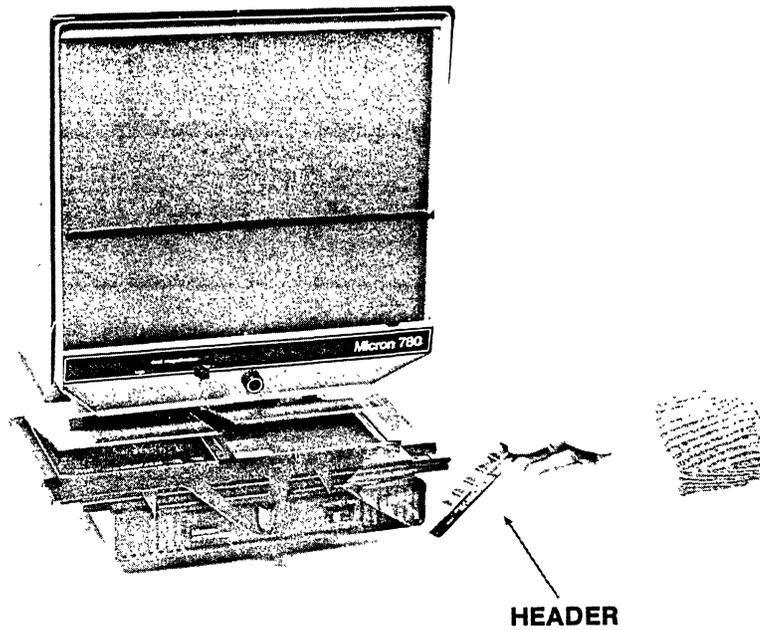

Figure C-3. Inserting Microfiche into Desk Reader
3. Hold the microfiche by the header with the printed information facing up (figure C-3).